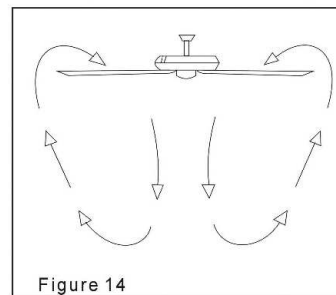

Figure 14
**Warm weather-** (Forward) A downward air flow creates a cooling effect as shown in figure 14 This allows you to set your air conditioner on a higher setting without affecting your comfort.